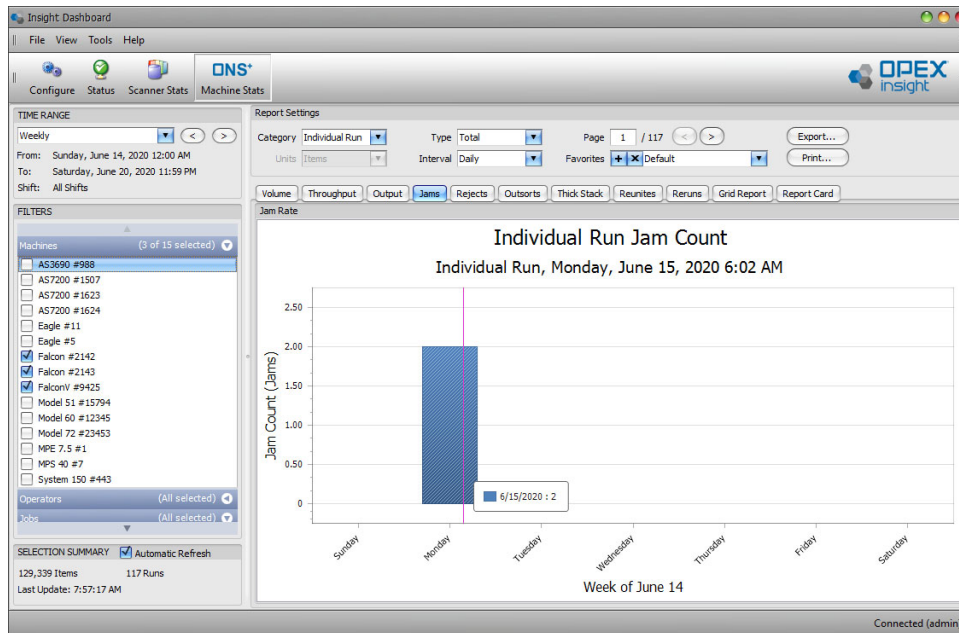

Figure 5-19: Machine Report - Individual Run example
4. The **Type** can be set to **Comparison** or **Total**. Figure 5-19 shows an example of an Individual Run report.